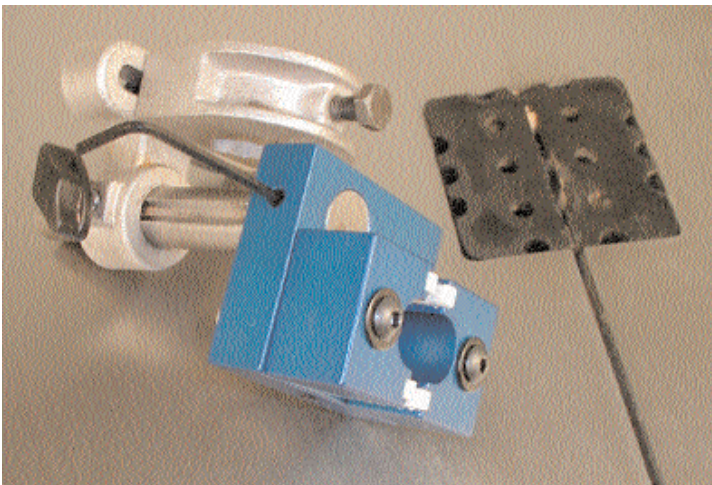

Fig. 5
6. Fit the Surround Guide to the shaft ensuring that the shaft does not protrude through past the front of the support block as it will interfere with the adjustment of the side guide blocks. See Fig. 5.
7. Fit the guide assembly to the blade-guide adjustment shaft. See Fig. 5.